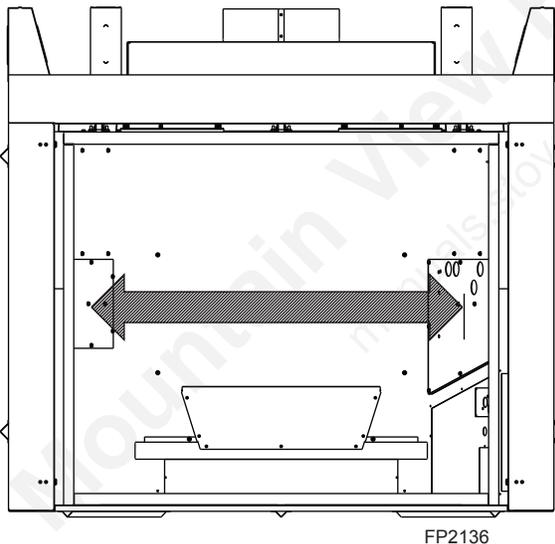

Figure 32 -
7. Remove the access covers on the right and left side walls of the firebox toward the front by unfastening the screws. **NOTE: The access covers are not identical.** *Figure 32*